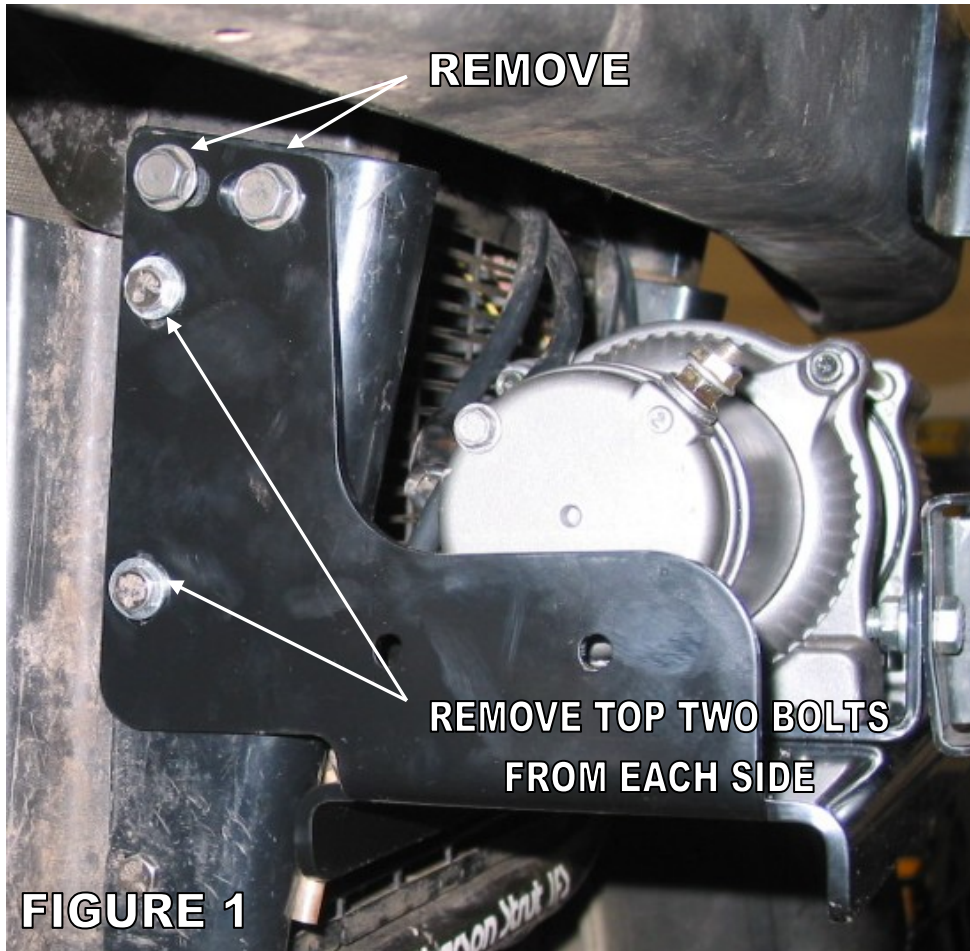

Figure 2
3. Place mounting plate into position as pictured in figure 2. Attach at the top with the four 5/16-18 self-tapping cap screws supplied with the kit. Do not tighten fully at this time.